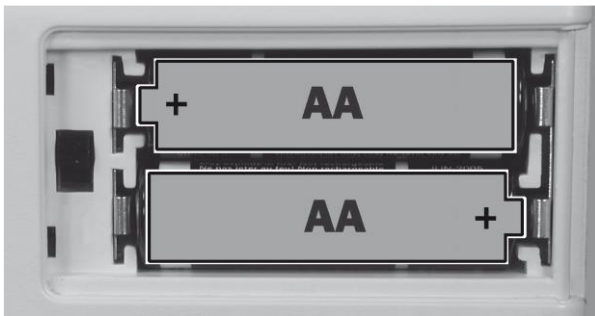

Fig. 3-2 Observe the polarity of the batteries.
- Place the two batteries in the compartment as indicated by the symbols (see Fig. 3-2).